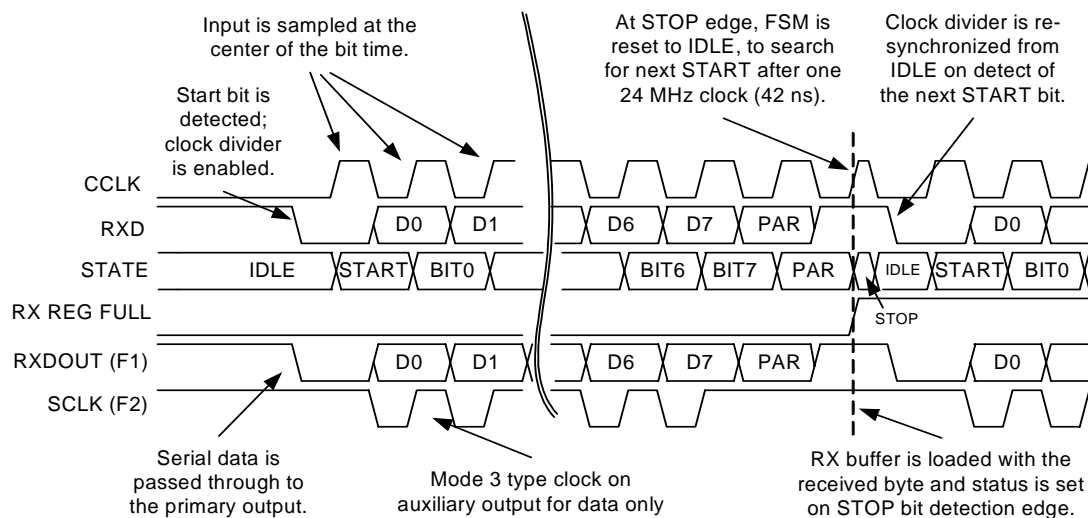

Figure 17-26. Receiver Operation
**Receive Operation.** A clock, which must be 8X the desired baud rate, is selected as the CLK input. This clock is an input to the RX block clock divider. When the receiver is idle, the clock divider is held in reset. As shown in Figure 17-26, reception is initiated when a START bit (logic '0') is detected on the RXD input. When this occurs, the reset is negated to the clock divider and the 3-bit counter starts an up-count. The block clock is derived from the MSB of this counter (corresponding to a count of 4), which serves to sample each incoming bit at the nominal center point. This clock also sequences the state machine at the specified bit rate.
To facilitate connection to other digital blocks, the RXD input is passed directly to the RXDOUT (primary) output. The SCLK (auxiliary) output has an SPI mode 3 clock associated with the data bits (for mode 3 timing see Figure 17-26). During the mark (idle) and framing bits the SCLK output is high.